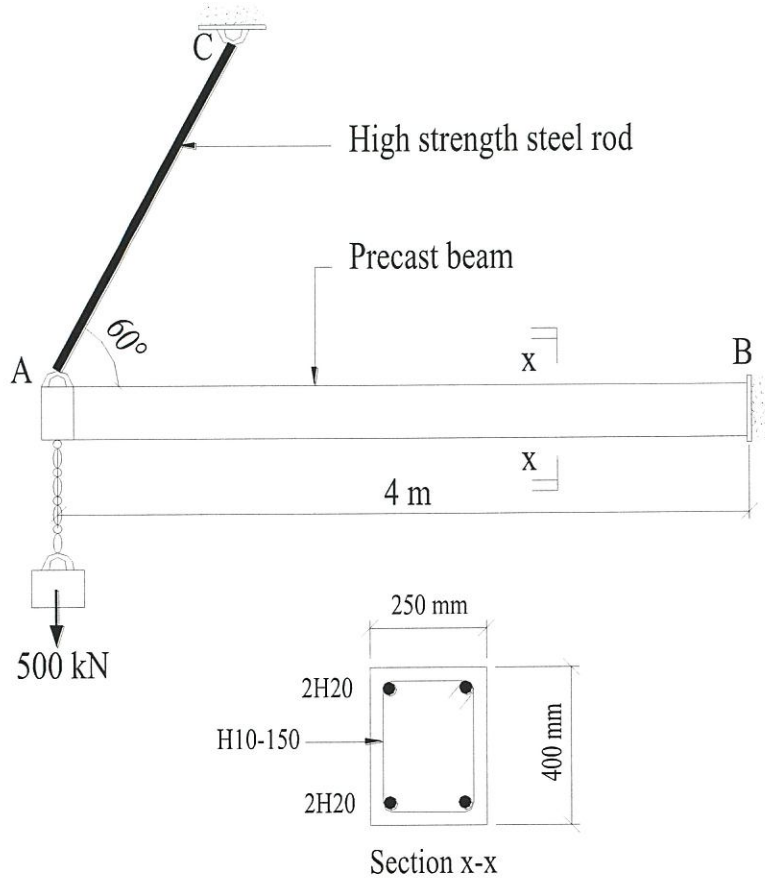

FIGURE Q3
- Q3** **Figure Q3** shows a temporary structural system used to carry a maximum concentrated load of 500 kN at A. The system is fixed to the wall at B and pinned at C. The high strength steel rod is tied to the precast beam at A. The precast concrete beam is used for a precast floor system with reinforcement as shown in Section x-x designed to carry bending only.